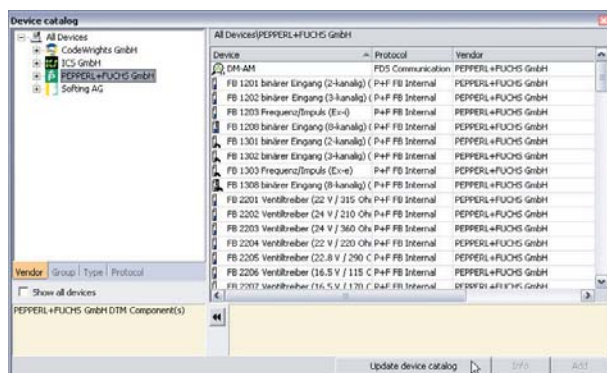

Figure 4.5: Device catalog in PACTware
3. Click the **Update device catalog** button to update the device catalog (view Figure 4.5 on page 34).